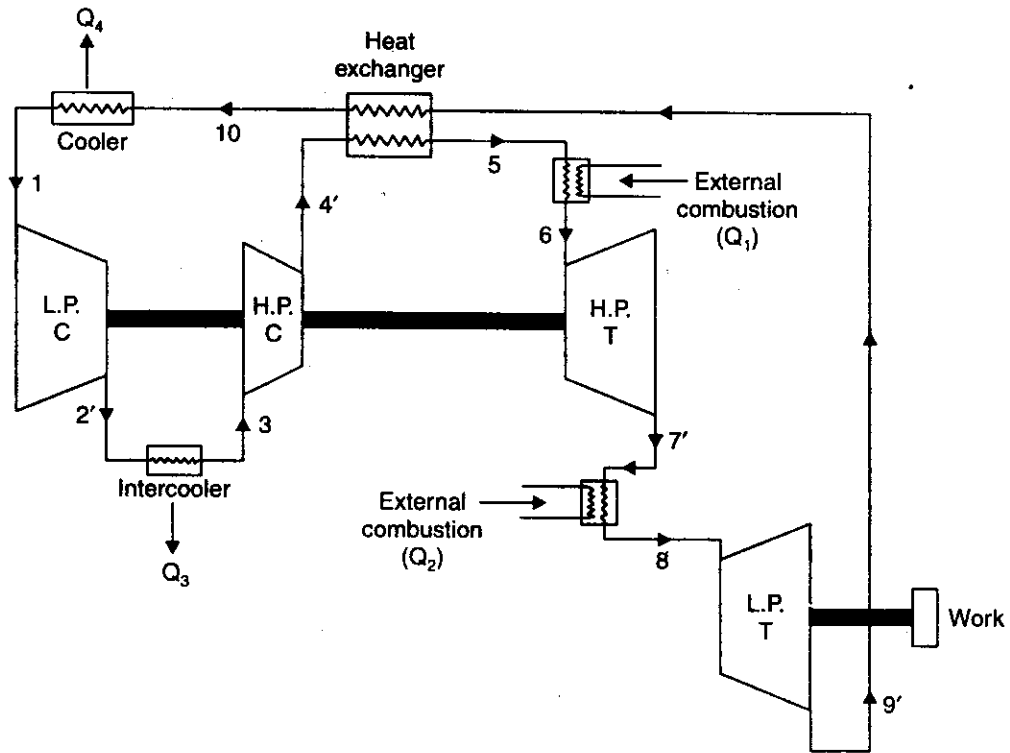
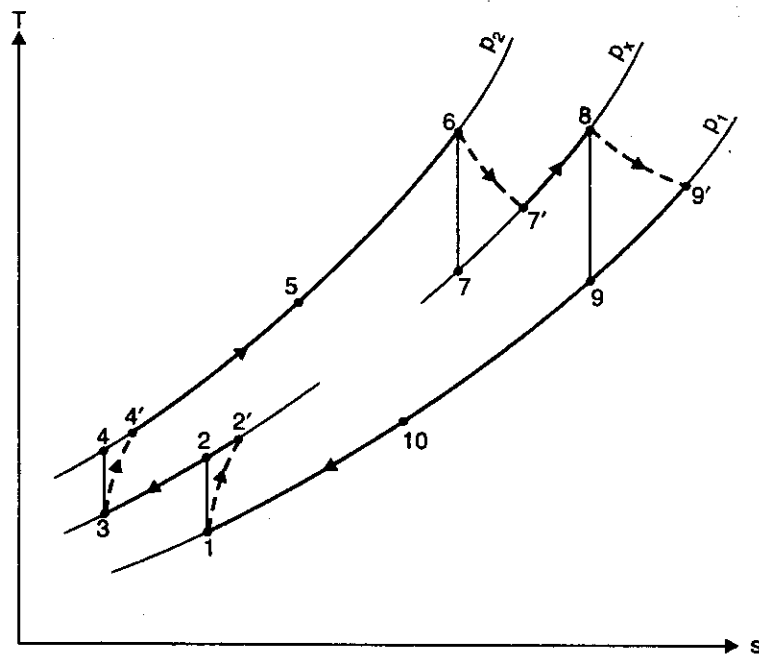

Fig. 5.14. Closed cycle gas turbine plant.
Fig. 5.15. T-s diagram for the plant.
- Fig. 5.14 shows an arrangement of closed cycle stationary gas turbine plant in which air is continuously circulated. This ensures that the air is not polluted by the addition of combustion waste product, since the heating of air is carried out in the form of heat exchanger shown in the diagram as air heater. The air exhausted from the power turbine is cooled before readmission to L.P. compressor. The various operations as indicated on T - s diagram (Fig. 5.15) are as follows :